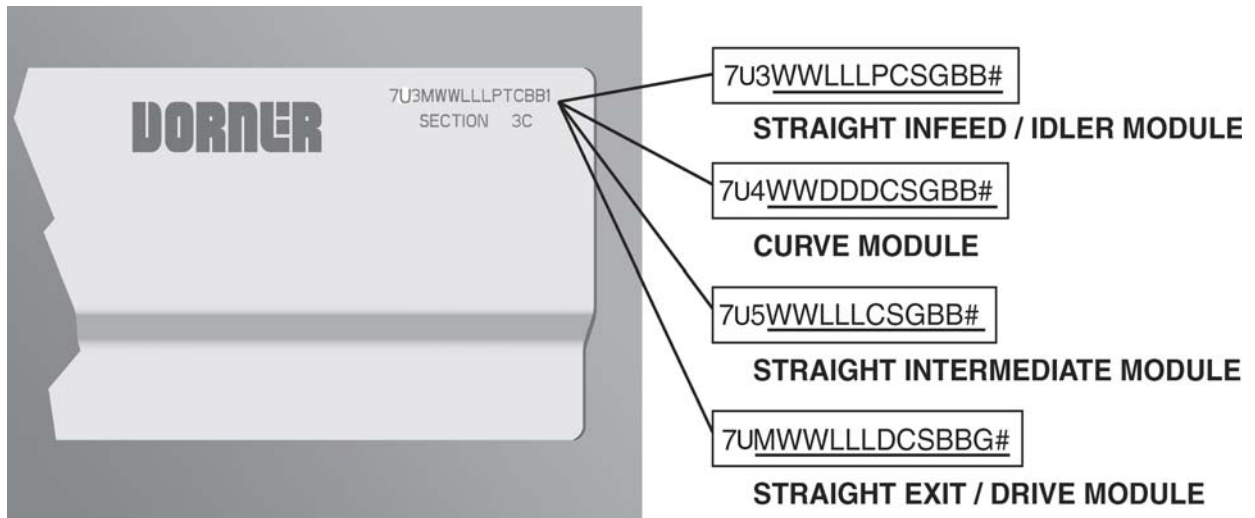

Figure 82
Refer to your serial and model number plate (**Figure 82**). From the model number, determine conveyor width (WW), length (LLL), pulley type (P), stand location, cleaning options (C), stand holes (S), guide profile (G), belt material (BB), degree of turn (DDD), drive/pulley type (D) and module serialized sequence (#).